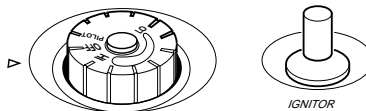

Figure 19 - Control Knob for Thermostat Model CGS10P
3. Turn control knob clockwise ↻ to the OFF position (see Figure 19).
4. Wait five (5) minutes to clear out any gas. Smell for gas around heater and near floor. If you smell gas, STOP! Follow "B" in the safety information in column 1. If you don't smell gas, go to next step.
5. Turn control knob counterclockwise ↻ to the PILOT position. Press in control knob for five (5) seconds.
8. Turn control knob counterclockwise ↻ to desired heating level. The main burner should light. Set control knob to any heat level between HI and LO (see Figure 19).